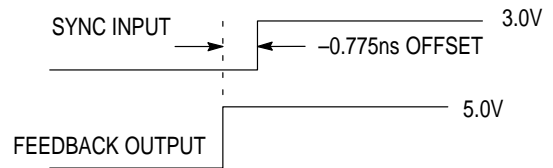

Figure 2. Depiction of the Fixed SYNC to Feedback Offset (t_{PD}) Which is Present When a 1MΩ Resistor is Tied to VCC or Ground
- A 1MΩ resistor tied to either Analog V_{CC} or Analog GND as shown in Figure 2 is required to ensure no jitter is present on the MC88915T outputs. This technique causes a phase offset between the SYNC input and the output connected to the FEEDBACK input, measured at the input pins. The t_{PD} spec describes how this offset varies with process, temperature, and voltage. The specs were arrived at by measuring the phase relationship for the 14 lots described in note 1 while the part was in phase-locked operation. The actual measurements were made with a 10MHz SYNC input (1.0ns edge rate from 0.8V – 2.0V) with the Q/2 output fed back. The phase measurements were made at 1.5V. The Q/2 output was terminated at the FEEDBACK input with 100Ω to V_{CC} and 100Ω to ground.